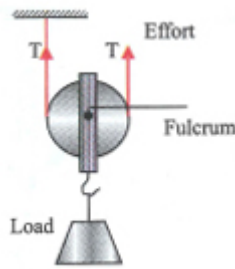

Figure 7.8: Side view of a single movable pulley
In a single movable pulley shown in figure 7.8, the load is attached to the pulley. The effort applied to the rope creates a tension T in the rope. The pulley will be in equilibrium if the total upward force ($2T$) is equal to the total downward force (L). Load $L = 2T$ and the effort $E = T$. If the pulley is without friction, the mechanical advantage ($M.A.$) = 2.